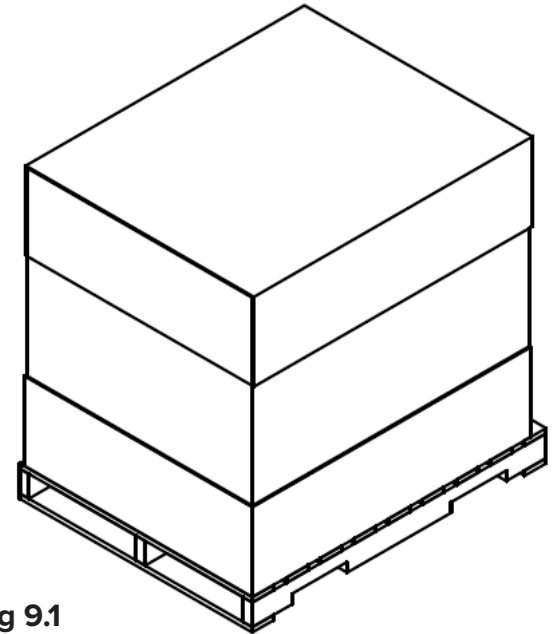

Fig 9.1
1. Inspect shipping container (Fig 9.1) for visible damage upon arrival. If transit damage is found, contact Ergonomic Products immediately (this will expedite the corrective process).